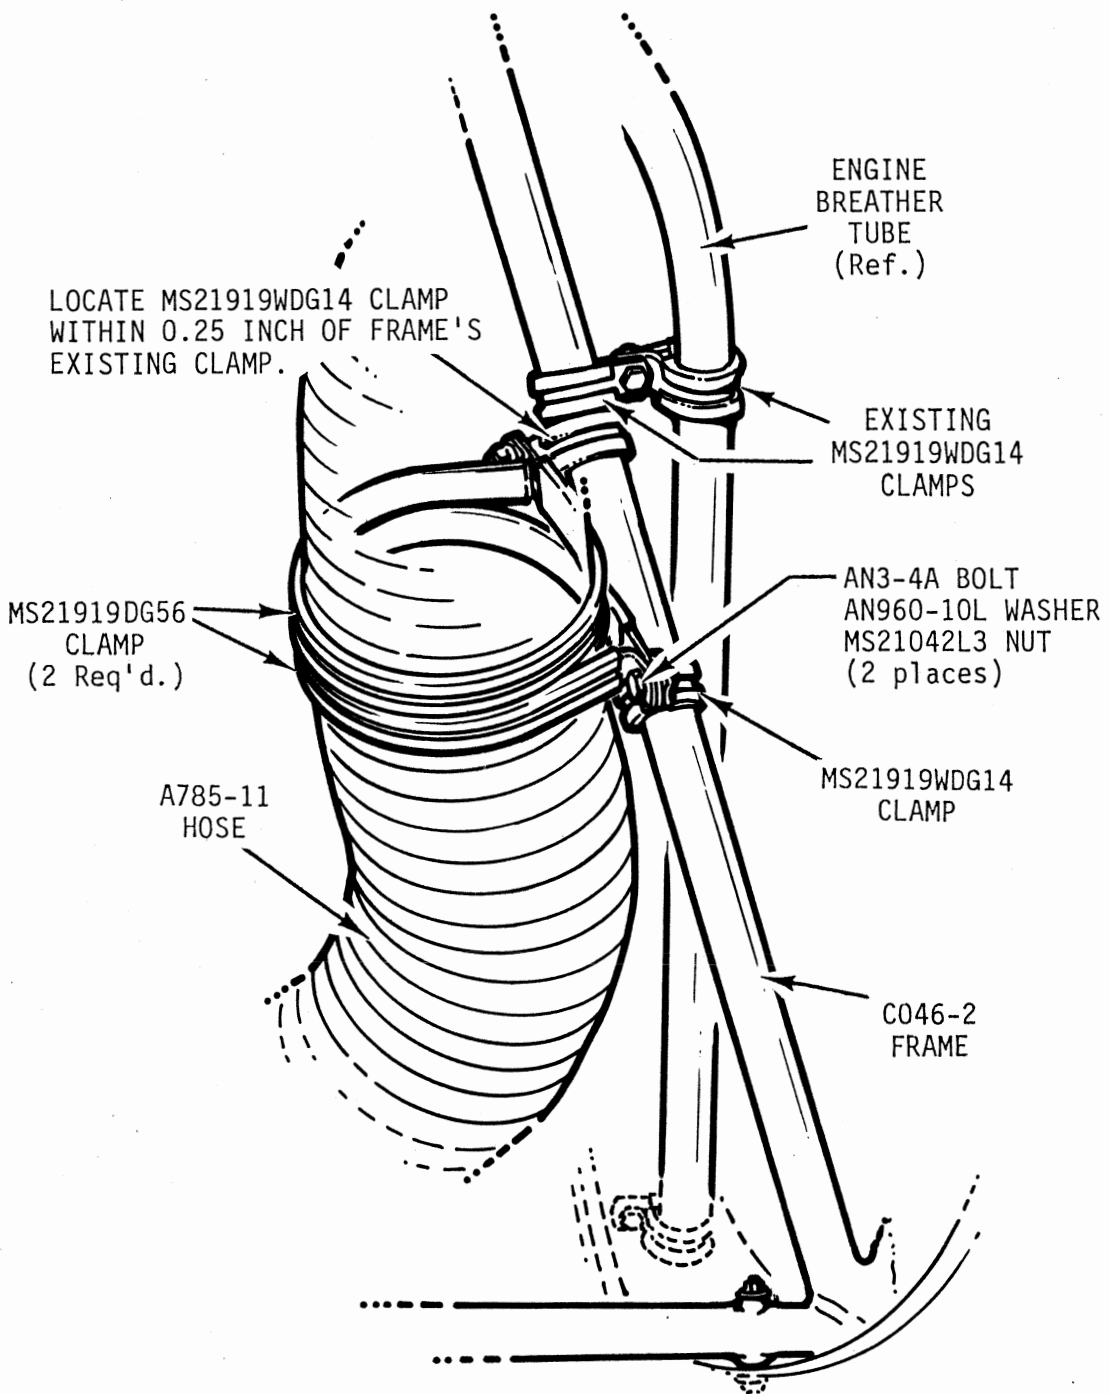

FIGURE 1
- 3) Remove the AN3-3A bolt, washer and nut which secures the existing MS21919WDG14 and MS21919DG56 clamps to the A785-11 hose and C046-2 frame. Discard the AN3-3A bolt. Reposition the clamps per Figure 1 and secure with an AN3-4A bolt and existing AN960-10L washer and MS21042L3 nut.
- 4) Position one each additional MS21919WDG14 and MS21919DG56 clamps per Figure 1 and secure with an AN3-4A bolt, AN960-10L washer and MS21042L3 nut.